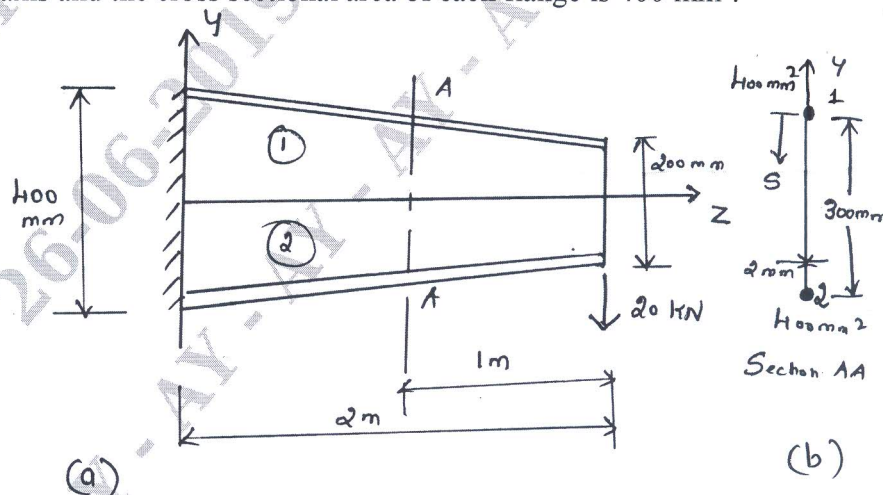

Fig.Q7
- 7 Determine the shear flow distribution in the web of the tapered beam shown in Fig.Q7, at a section midway along its length. The web of the beam has a thickness of 2mm and is fully effective in resisting direct stress. The beam tapers symmetrically about its horizontal centroidal axis and the cross sectional area of each flange is 400mm^2 . (16 Marks)